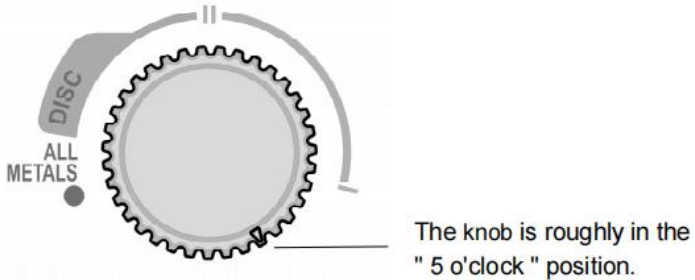

Figure 12. The ALL METALS/DISC Knob
4. To prevent the zinc penny from being detected, set the ALL METALS/DISC knob to about " 5 o'clock " (see Figure 12). By now, only the 25-cent silver quarter should be detected.